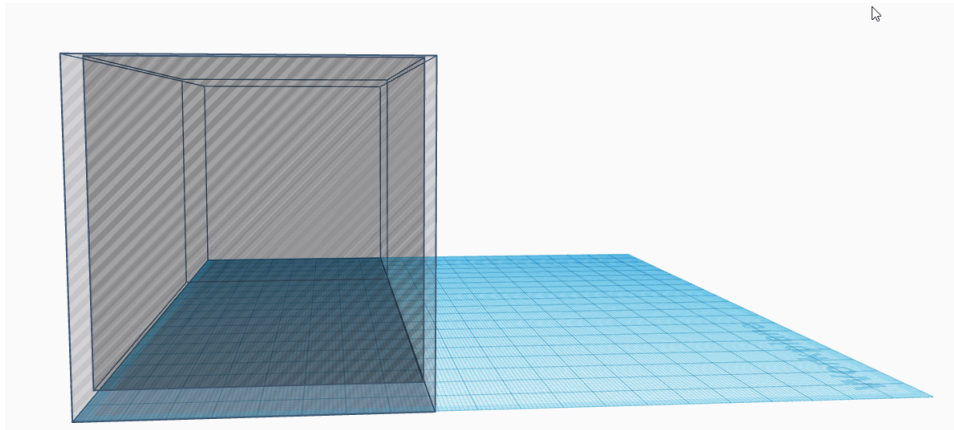

Figure 15.4: Tinkercad Box Placement
17. If you look at from left, you should see a similar setup as shown in Figure 15.4.